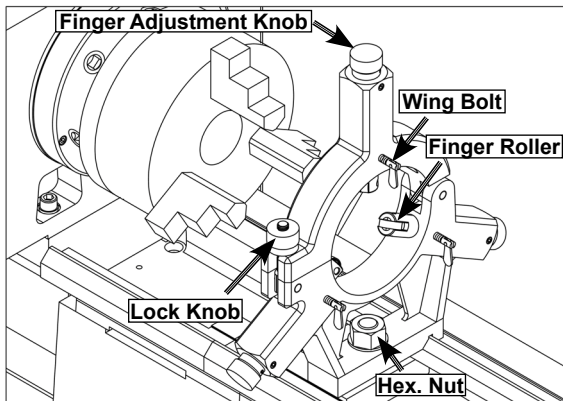

Figure 35. Steady rest components.
3. Position the steady rest where required to properly support the workpiece, then tighten the hex nut shown in Figure 35 to secure it in place.